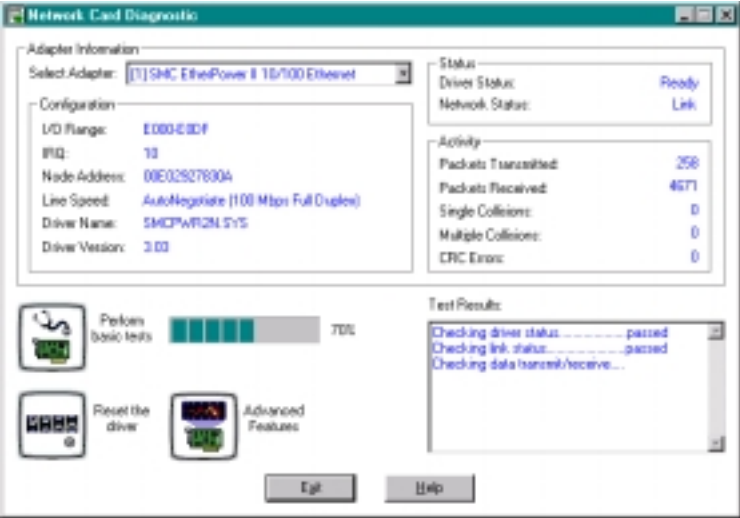

Figure 4-2. Testing Status
- ◆ Status messages under “Test Results” show the current test in progress. As each individual test completes, Test Results shows whether the SMC network card passed or failed the test (see Figure 4-2).